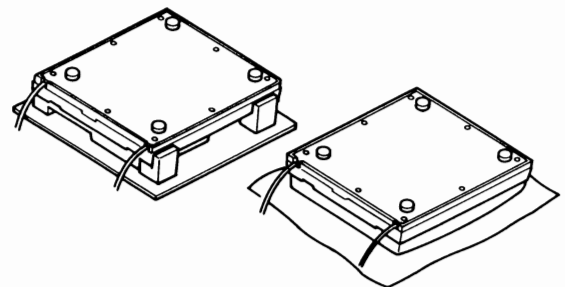

Figure 2
**NOTE :** When turning over the Main Unit, use a work stand so that the tone arm is not damaged, or attach the dust cover and place over a soft sheet as shown in Figure 2.